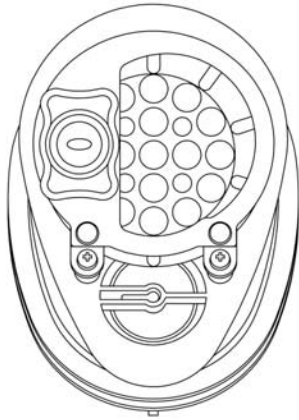

Figure 3. Attach Microphone
7. Position the holes in the microphone “legs” over the nozzle inserts. See Figure 3.